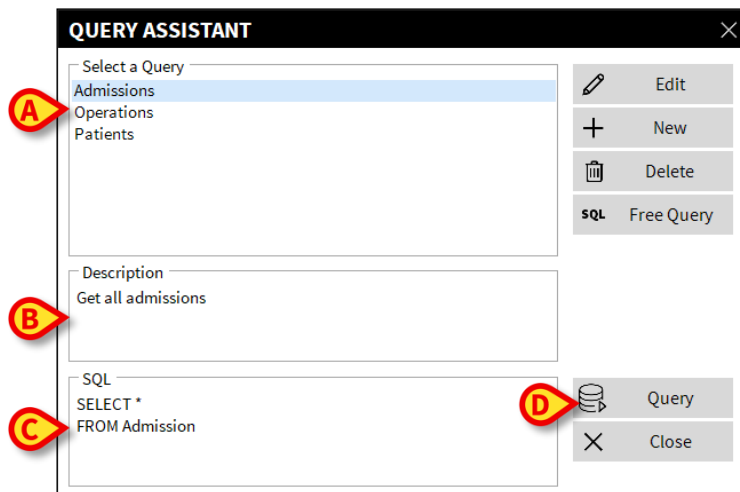

Fig 34
The name will be highlighted (Fig 34 **A**).
A textual description of the query is displayed in the “Description” area (Fig 34 **B**).
The “SQL” area (indicated in Fig 34 **C**) displays the content of the query in SQL language (Structured Query Language).
- Click the **Query** button (Fig 34 D - bottom-right)